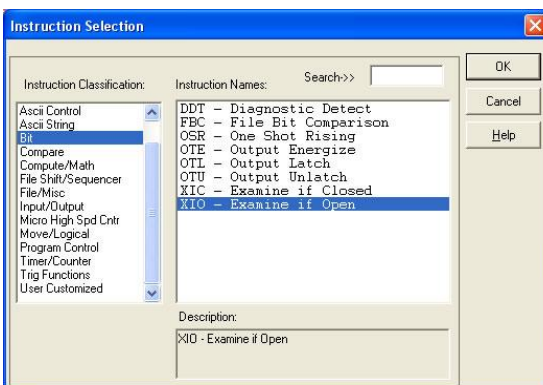

Figure 66: XIO Instruction Selection
- b) Select the “XIO” instruction from the “Bit” classification, then click OK. Refer to Figure 66.